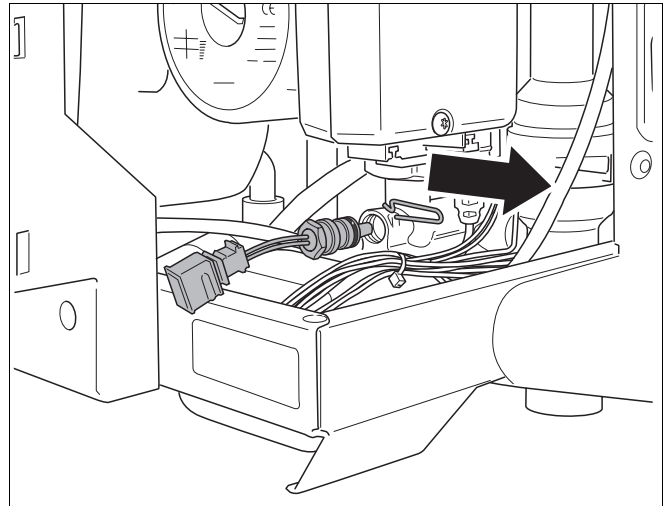

fig. 92 Disconnect plug return sensor
- Disconnect the plug of the return sensor (→ fig. 92).